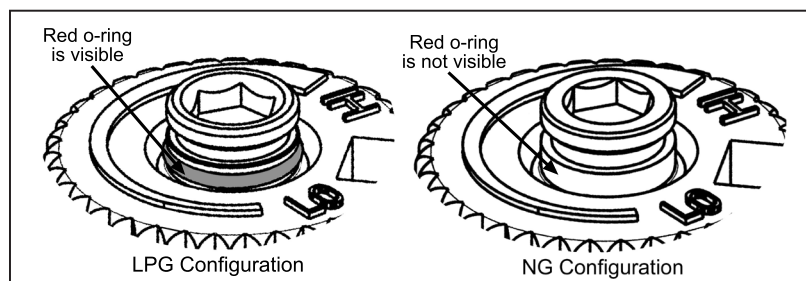

Figure 15: O-ring on valve screw.
- g) Verify that if the conversion is from NG to LPG, the screw must be re-assembled with the red o-ring visible (Figure 15). If the conversion is from LPG to NG, the red o-ring of the screw must not be visible.